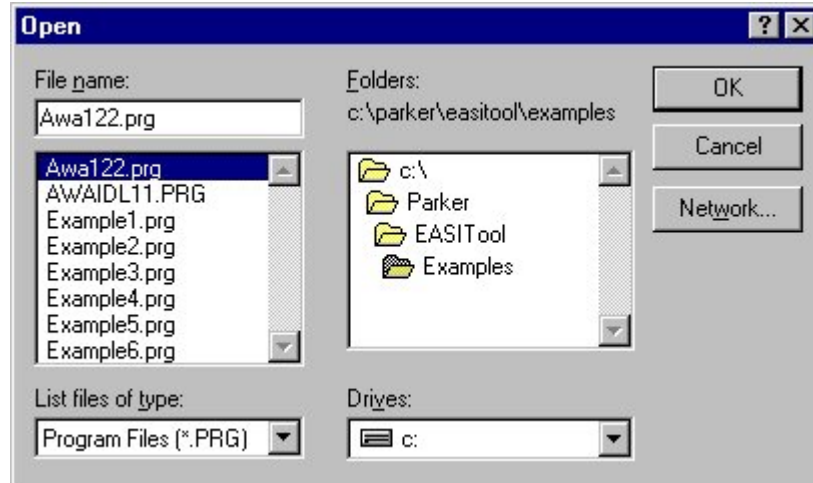

Figure 2.39 Open Awa122.prg
- b. Select **C:\Parker\ easitool\examples\Awa122.prg** as shown in Figure 2.39.